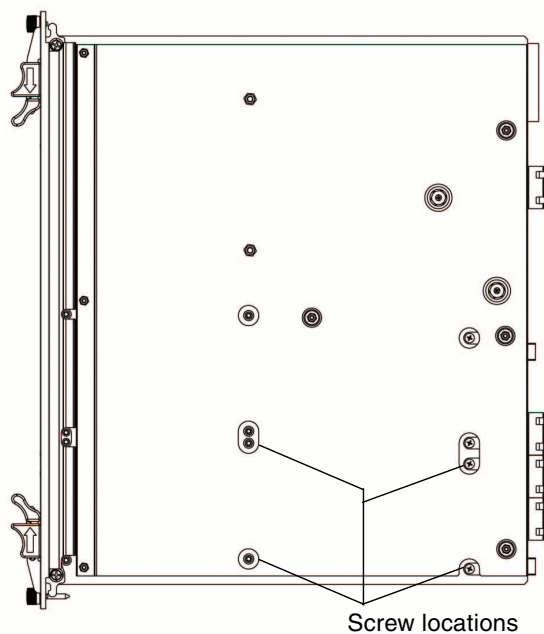

FIGURE 2-11 Securing the Disk Drive Screws
7. Turn the Netra CP3020 board over, and use a screwdriver to secure the four screws that attach the disk drive to the Netra CP3020 board (FIGURE 2-11).